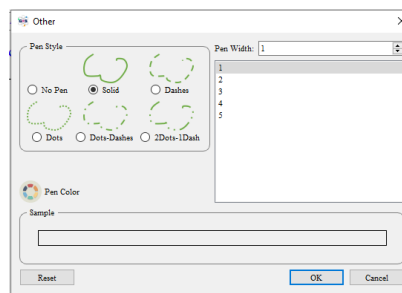

Fig.21: Color-Other Settings Interface
- ③ Color - You can set the spectrum color, background color, and others. In others, you can set the pen style, pen width, and pen color for the spectrum border, marker line, fitting lines, etc., as shown in Fig.21.
- ④ Default - Restore the design to default.